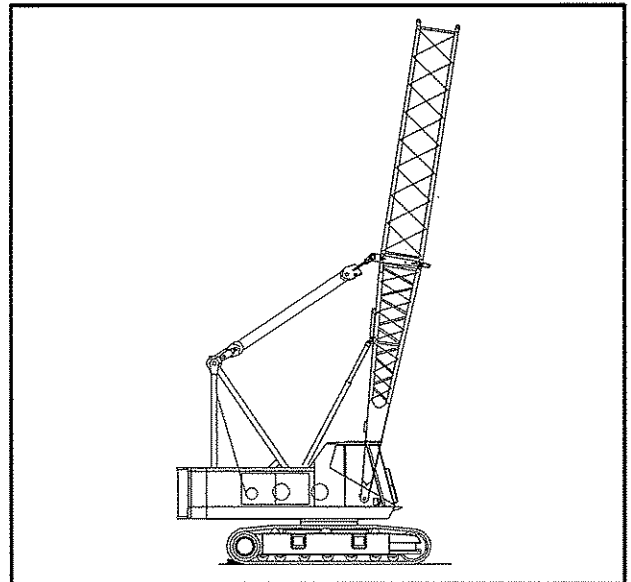

Figure 1-77
4. If using extensions without the top section, connect the bridle to the handling links on the base section. Refer to Figure 1-77.